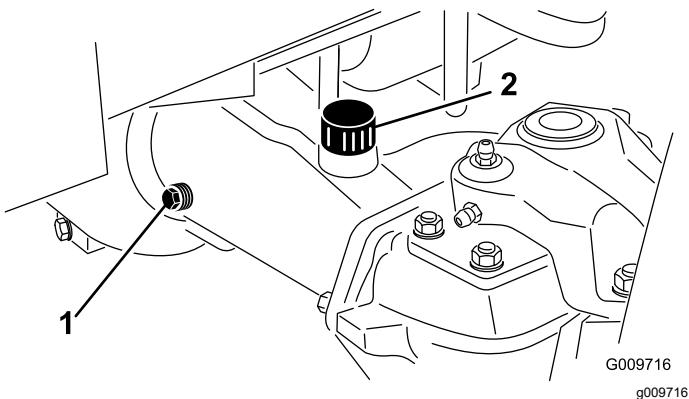

Figure 132
2. Remove a check plug from 1 end of the axle housing (Figure 132).